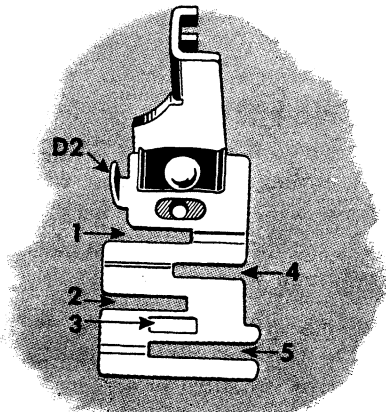

Fig. 52. The Edge Stitcher
Fasten this attachment to presser bar in place of presser foot. See that needle enters center of needle hole. The distance from line of stitching to edge of material in slots is regulated by moving lug **D2**, Fig. 52 to right or left.
1. Insert one of laces in slot **1** of edge stitcher and the other in slot **4**, Fig. 52.
2. Insert piping with its folded edge to left in slot **3** and edge to be piped in slot **4**, Fig. 52.
1. Place garment under edge stitcher and tape in slot **1** or **4**, Fig. 52.
2. Insert the edge in slot 5, Fig. 52, and adjust lug D2 to stitch as close to the edge as desired.